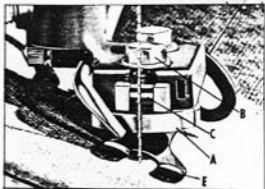

Fig. 16
The blade guide (A) Fig. 16, is universal and can be adjusted to suit any width or thickness of blade within the capacity of the machine. The blade guide (A) has six different width slots and can be rotated to accommodate various blade thicknesses by loosening screw (B).
The blade is backed by a heat treated roller (C) Fig. 16, that prevents wear on the blade guide, avoids work hardening of the back of the blade, which may contribute to blade breakage.
A blade guard is provided to prevent accidental injury to the fingers. (For clarity the blade guard is not shown in Fig. 16.)
The blade guide assembly is also provided with a hold-down spring (E) Fig. 16, which can be tilted to follow the angle of the work when the table is tilted.